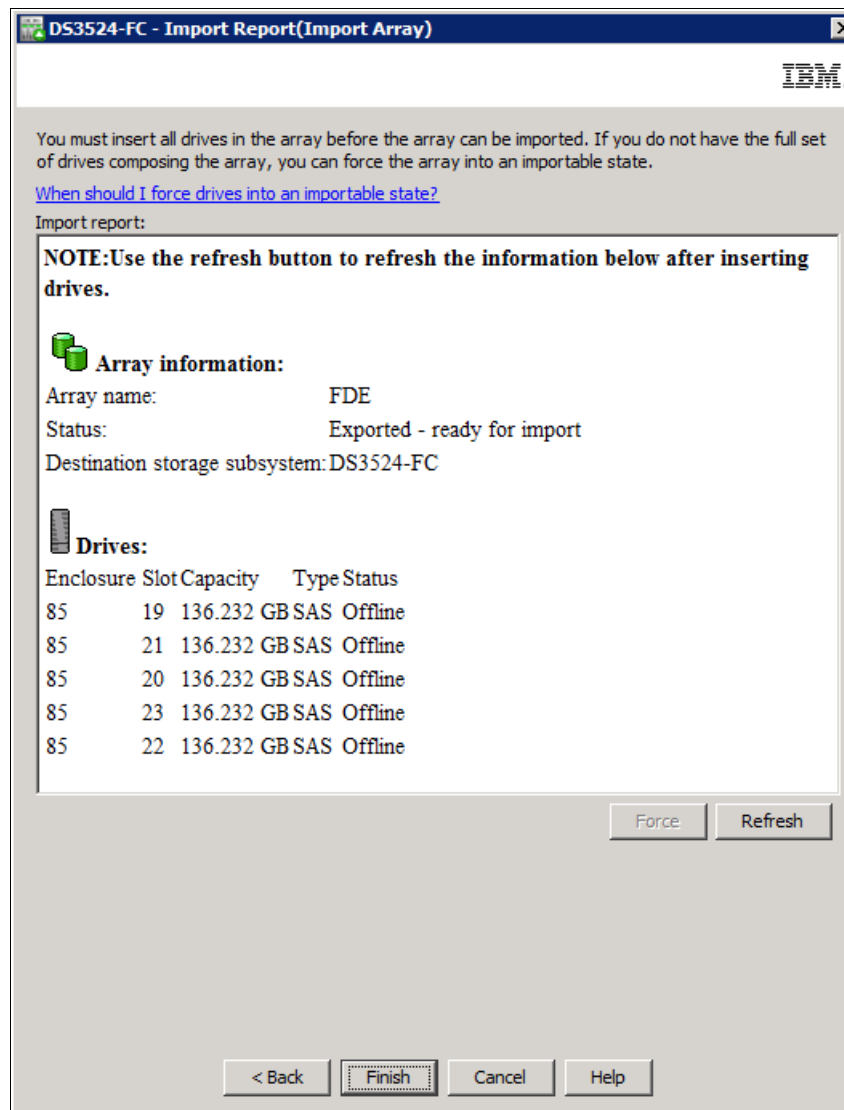

Figure 15-38 Import report indicating all that drives to be imported
3. The import array panel, shown in Figure 15-38, gives details about the disks that will be imported. Check that all the disks that are displayed are correct and that none of them are missing. If they are all correct, click **Finish**.